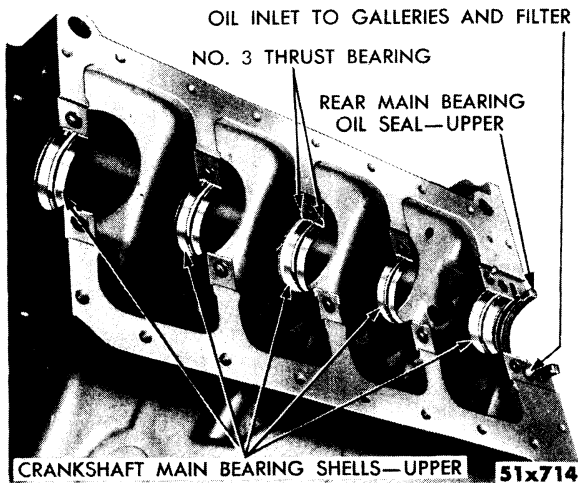

Fig. 24—Main Bearing Shells Installed—Upper
- (1) Check each bearing shell carefully for a scored, chipped, or etched condition. Replace damaged bearing shells, as shown in Figure 24.
- (2) Lubricate all bearing shells with engine oil, then carefully lower crankshaft and clutch, or torque converter (if so equipped), directly down on the bearing shells. The crankshaft should be lowered evenly and square with block to prevent damage to the bearings.